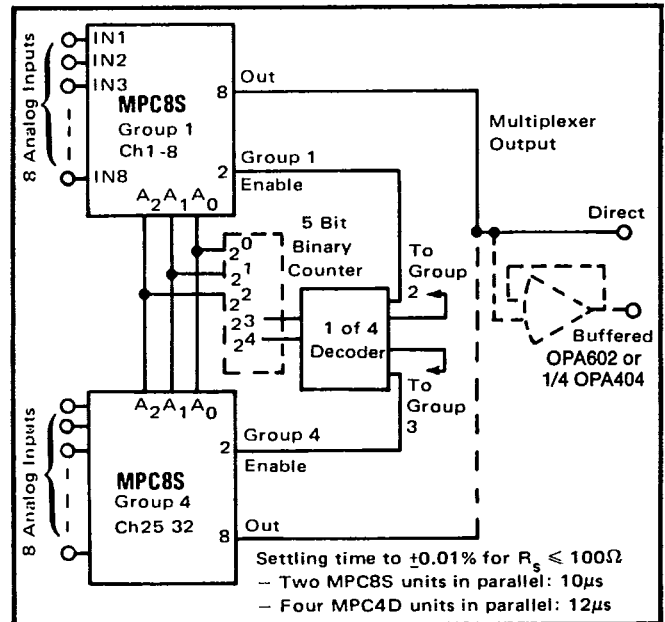

FIGURE 5. 32-Channel, Single-Tier Expansion.
- For 20V between switched channels, R_{SOURCE} = 1000Ω. See Figure 5 for settling time versus source impedance (R_S).
The ENABLE input, pin 2, is included for expansion of the number of channels on a single node as illustrated in Figure 5. With ENABLE line at a logic 1, the channel is selected by the 2-bit (MPC4D) or 3-bit (MPC8S) Channel Select Address (shown in the Truth Tables on Page 2). If ENABLE is at logic 0, all channels are turned OFF, even if the Channel Address Lines are active. If the ENABLE line is not to be used, simply tie it to +V supply.
Up to 32 channels (4 multiplexers) can be connected to a single node, or up to 64 channels using 9 MPC8S multiplexers on a two-tiered structure as shown in Figures 5 and 6.